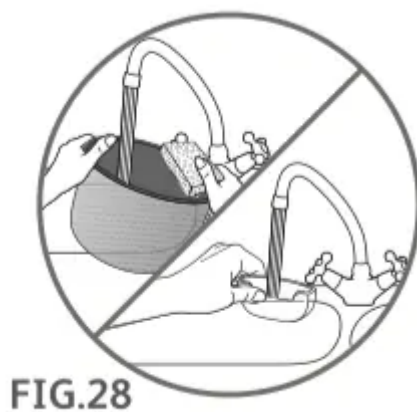
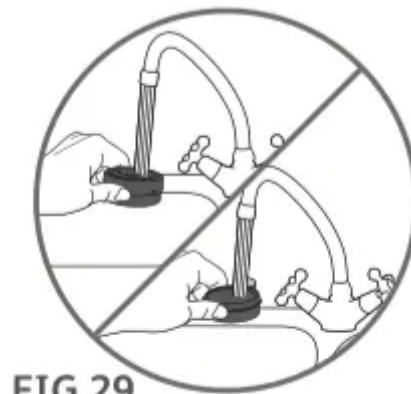
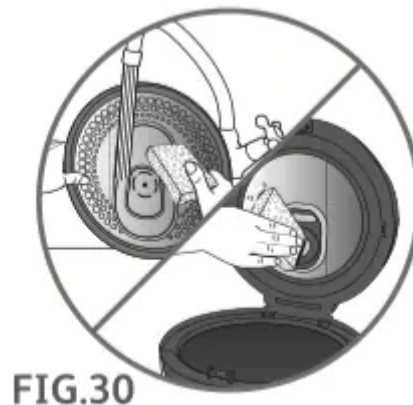

FIG.28
FIG.29
FIG.30
- Unplug the appliance before removing the bowl. Use hot water, washing up liquid and a sponge to clean the bowl – Fig.28, the condensation collector – Fig.28, the micro pressure valve – Fig.29, the inner removable lid – Fig.30, the spoon and the cup. Scouring powders and metal sponges are not recommended.
- Clean the outside of the Rice Cooker, the inside of the lid – Fig.30 and the cord with a damp cloth and wipe dry. Do not use abrasive products.